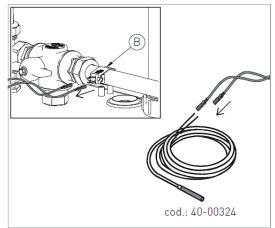

fig. 2
4. Disconnect the two faston of the recirculation probe (see B-fig. 2), and connect them onto the optional probe meant for the storage (part number: 40-00324, see fig. 2). Insert this latter probe into the sensor-holder of the storage tank.